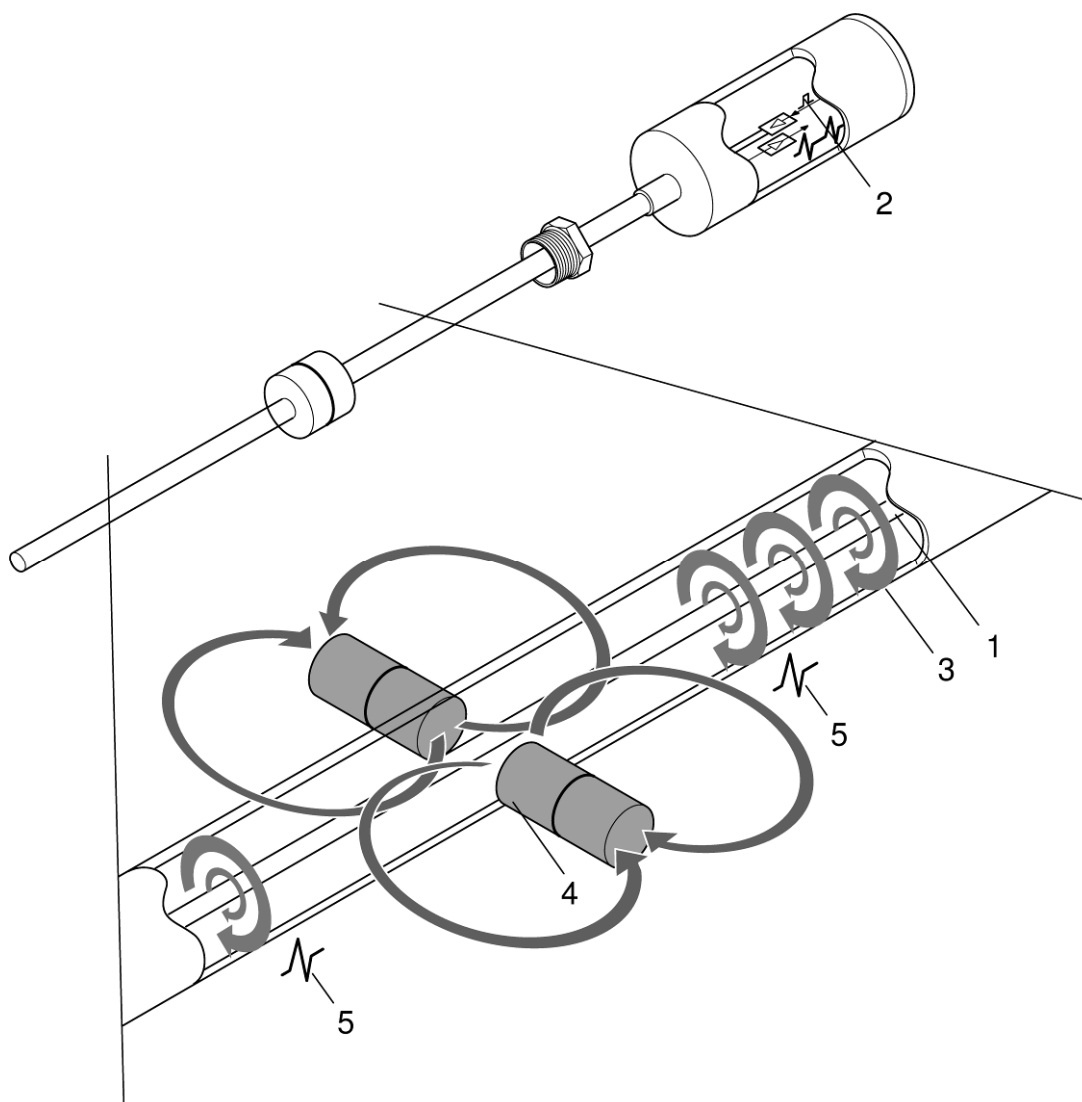

Figure 2: operating principle of the XT-1000 level sensor
The measuring principle illustrated in Figure 2 exploits the physical effect of magnetostriction and is largely unaffected by temperature. The probe tube contains a tensioned wire (1) made of magnetostrictive material. The sensor electronics transmit current pulses (2) through the wire, which generate a circular magnetic field (3). A magnet (4) contained in the float acts as the level sensor. Its magnetic field applies an axial magnetic field to the wire. The superposition of the two magnetic fields produces a torsional wave (5) at the float position, which then propagates along the wire in both directions. One wave propagates directly to the sensor head, the other propagates down to the bottom of the probe tube and is reflected. The time between the current pulse being transmitted and the wave arriving at the sensor head is measured. From these propagation times, it is possible to determine the current position of the float.